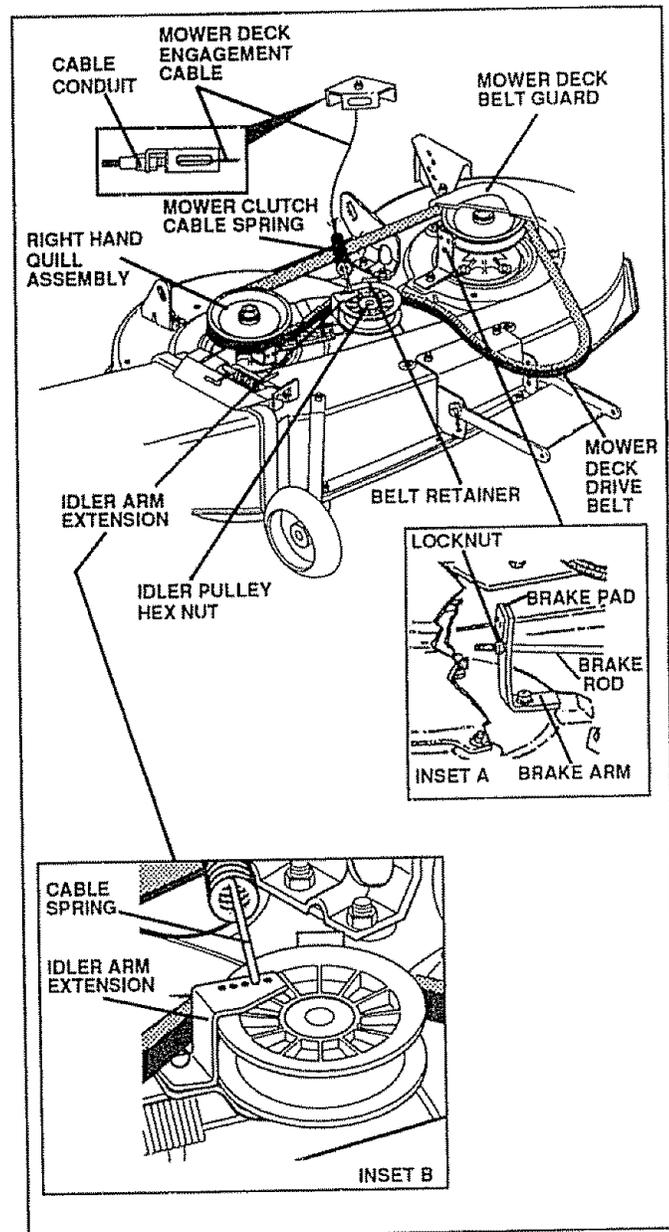

Fig. 27
TO ADJUST BLADE DRIVE BELT (See Fig. 27)
BLADE BRAKE ADJUSTMENT (See Fig. 27)
- Note which one of five holes on front of idler arm extension is used for attaching mower clutch cable spring (see Fig. 27, inset B).
- Locknut, on end of brake rod, should be approximately 1/8 inch from brake pad mounting bracket with left hand brake pad against pulley of left hand quill assembly (See Fig. 27, inset A).